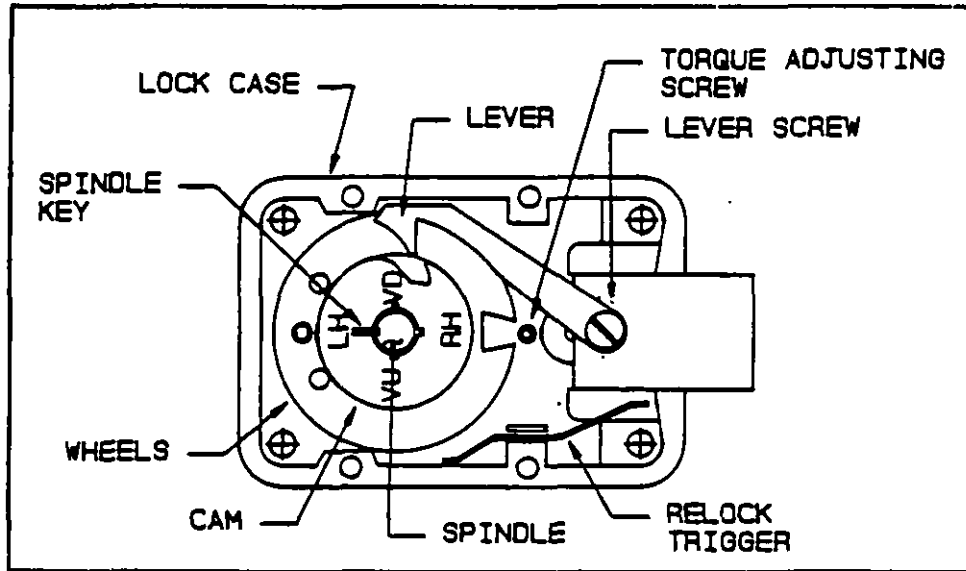

Figure 16
3.2.4.5 Torque Adjustment. To adjust torque, remove the back cover and insert a 3/32-inch allen wrench into the adjusting screw (see Figure 16). Turn clockwise to tighten or counterclockwise to loosen.